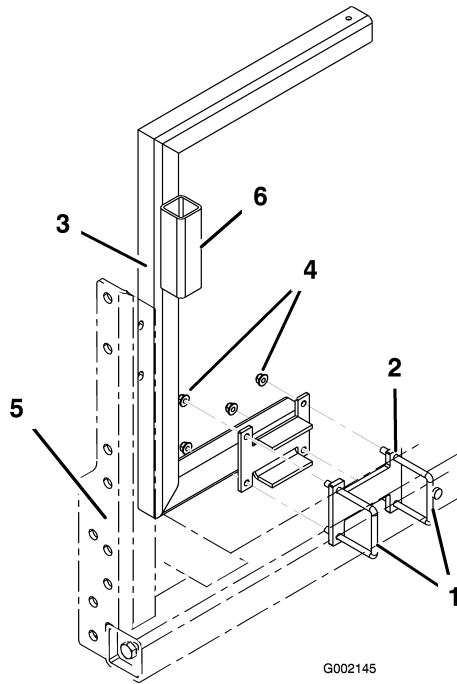

Figure 3
2. Install the right hose reel support (support with the spray gun holder tube on it) to the vehicle frame at the 2 U-bolts and spacer installed previously (Figure 3). Secure the frames with 4 flange nuts (3/8 inch). The support should wrap around the rear end of the tank.